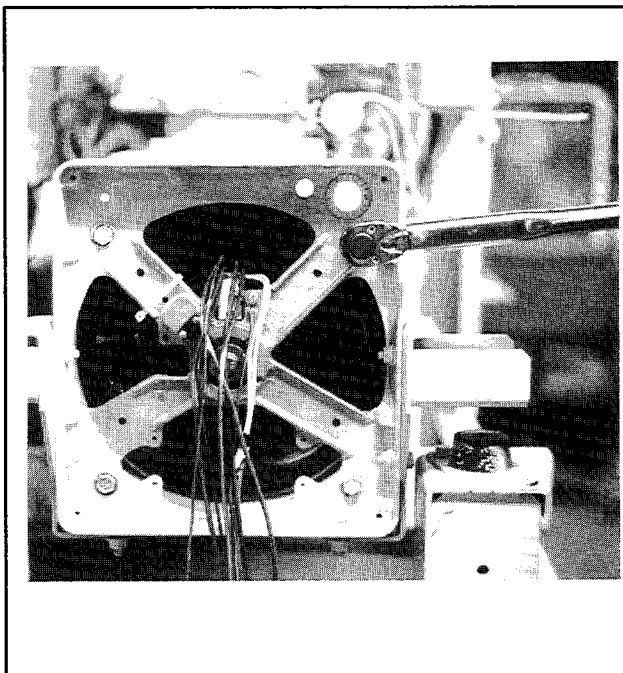

Figure 8-20. Installing Overbolts
8. When end bracket is completely installed in stator assembly, install overbolts and hardened flat washers. Torque overbolts to 216 in. lbs. (24 Nm). See Figure 8-20.